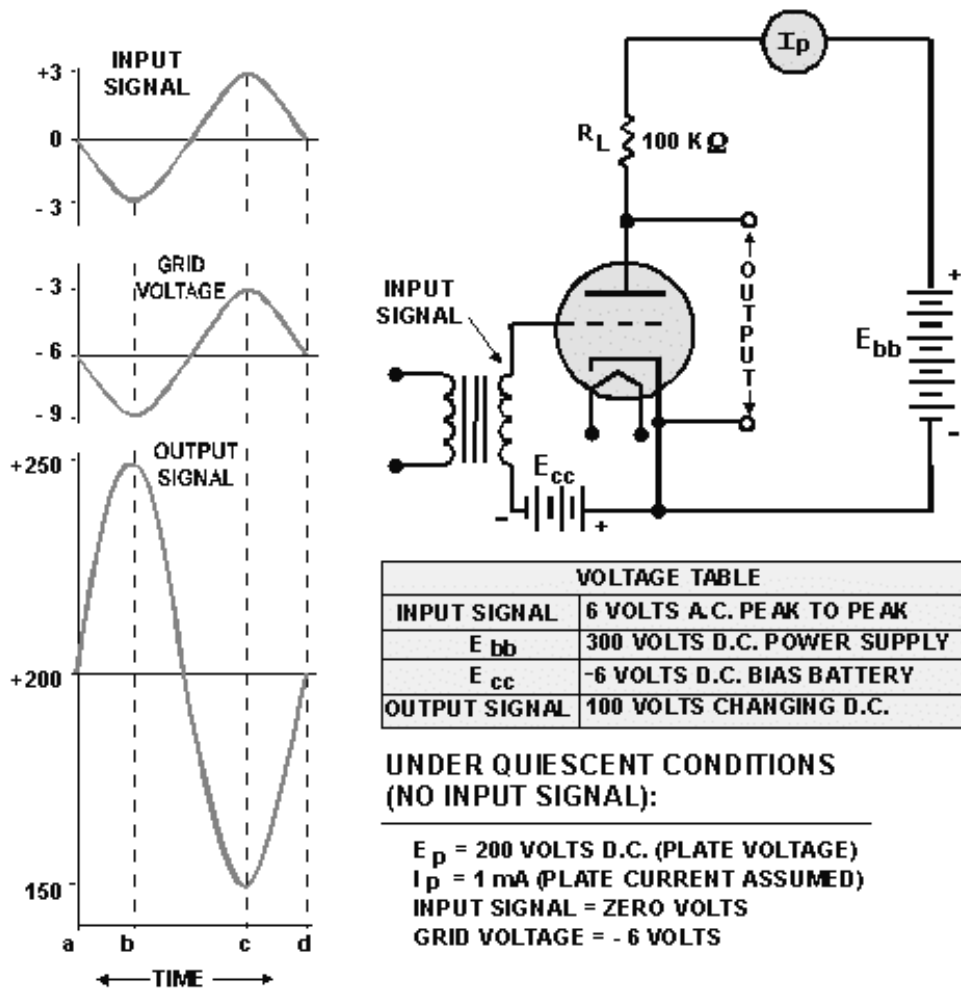

Figure 1-19.—Triode operation.
The circuit in figure 1-19 brings together all of the essential components of a triode amplifier. Before analyzing the circuit, however, we need to define the term **QUIESCENT**.
Simply, quiescent describes circuit conditions when the tube is not amplifying. The tube has no output signal and is in a kind of standby, waiting condition. Now let's go on to figure 1-19. With no input signal, under quiescent conditions, assume that 1 milliampere of current flows through the tube, cathode to plate. This current (I_p) will flow through R_L (load resistor) to the positive terminal of the battery. The current flowing through R_L causes a voltage drop (IR) across R_L equal to:
These values are shown on the waveforms as time a in figure 1-19.
Before going on to the next section, there is one more thing of which you should be aware. Look again at the waveforms of figure 1-19. Notice that the output voltage of the amplifier is 180° out of phase with the input voltage. You will find that this polarity inversion is a characteristic of any amplifier in which the output is taken between the cathode and the plate. This is normal and should not confuse you when you troubleshoot or work with this type of circuit.
- Q18. A triode amplifier similar to the one shown in figure 1-19 has an E_{bb} -350 volts dc. The plate-load resistor is 50 kΩ. Under quiescent conditions, 1.5 milliamperes of current conducts through the tube. What will be the plate voltage (E_p) under quiescent conditions?*